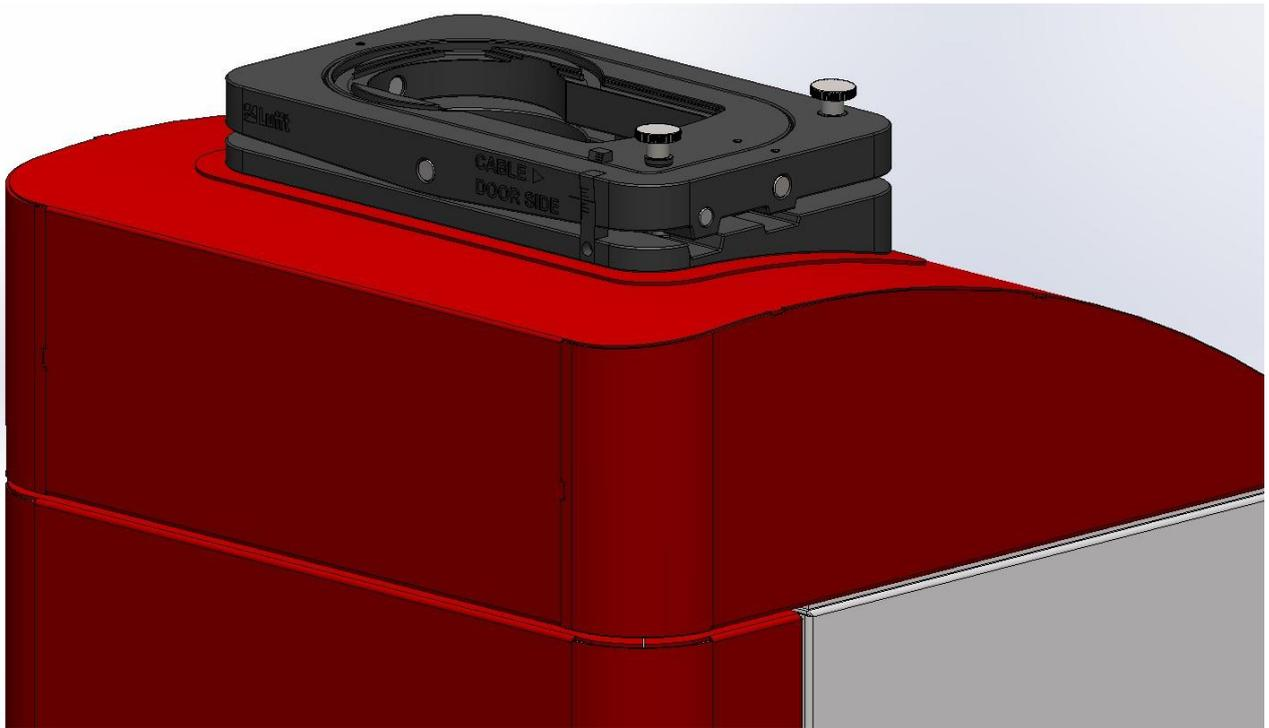
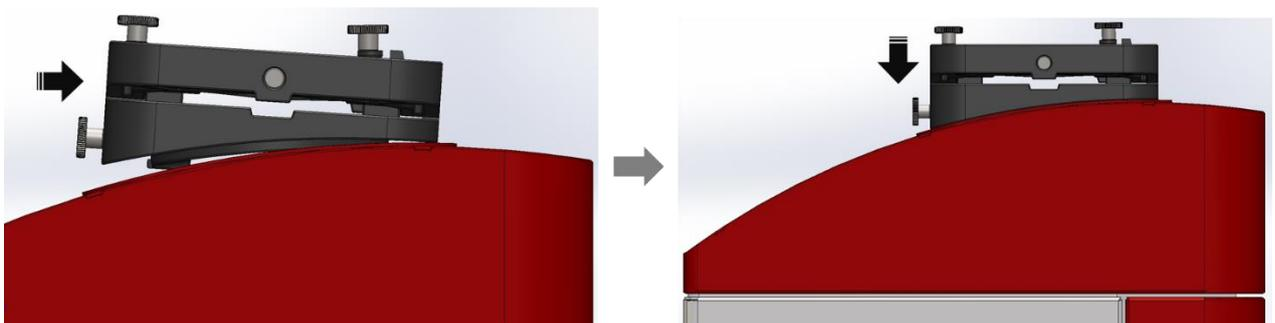

Figure 5 Alignment of the angle adapter to the ceilometer.
Figure 6 Placement of the angle adapter on the ceilometer.
2. Put on the angle adapter. The side marked with "Door" points to the front of the ceilometer where the housing door is located (see Figure 5). First insert the angle adapter at the front and push fully in, then press it down into the opening of the hood (see Figure 6).